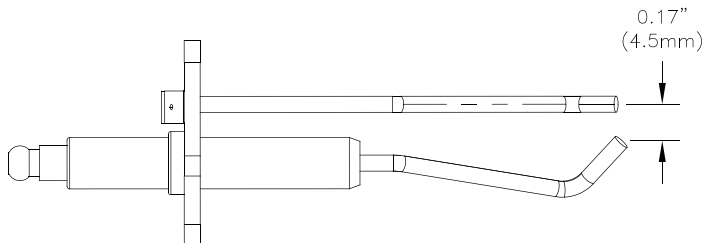

Figure 39: Igniter Electrode Gap
- 3. Remove the igniter assembly and flame sensor** and inspect them for oxide deposits. Clean the oxide deposits from the igniter electrodes and flame sensor rod with steel wool. Do not use sandpaper for the cleaning. Inspect the ceramic insulators for cracks and replace the igniter assembly and/or flame sensor if necessary. Check the igniter electrode spacing gap. Refer to Figure 39 “Igniter Electrode Gap” for details.